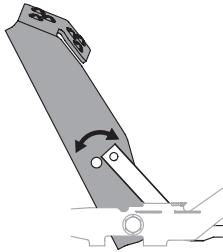

Figure 38
3. Position the pedal to the optimal position based on operator preference (Figure 38).